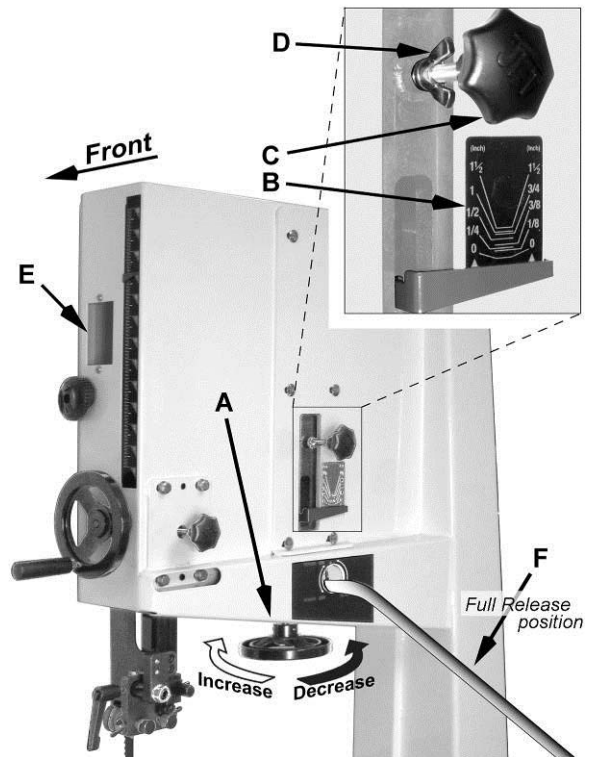
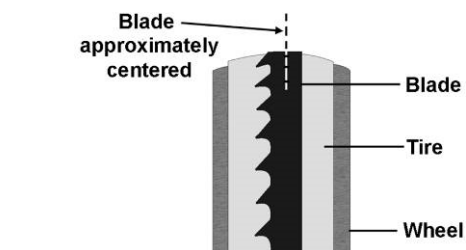

Figure 19
Figure 20
Blade tension is set with the *blade tension handwheel* (A, Fig. 19) and is performed following blade replacement and periodically as the blade stretches from use.
Referring to Figure 19:
2. Set the blade tension by rotating the *handwheel* (A) according to the *arrow directions* shown in Figure 19.
1. Open upper front door to expose the wheel. Rotate the wheel clockwise by hand and observe the position of the blade on the wheel through the window (E, Fig. 19). The blade should ride upon the center of the wheel as shown in Figure 20.
2. If the blade tends to move toward the edge of the wheel, loosen the *wing nut* (D, Fig. 19) and slightly rotate the *knob* (C, Fig. 19). Rotating the knob clockwise will cause the blade to move toward the rear edge of the wheel. Rotating the knob counterclockwise will cause the blade to move toward the front edge of the wheel.
3. When the blade is tracking properly in the center of the wheel, re-tighten the *wing nut* (D, Fig. 19).